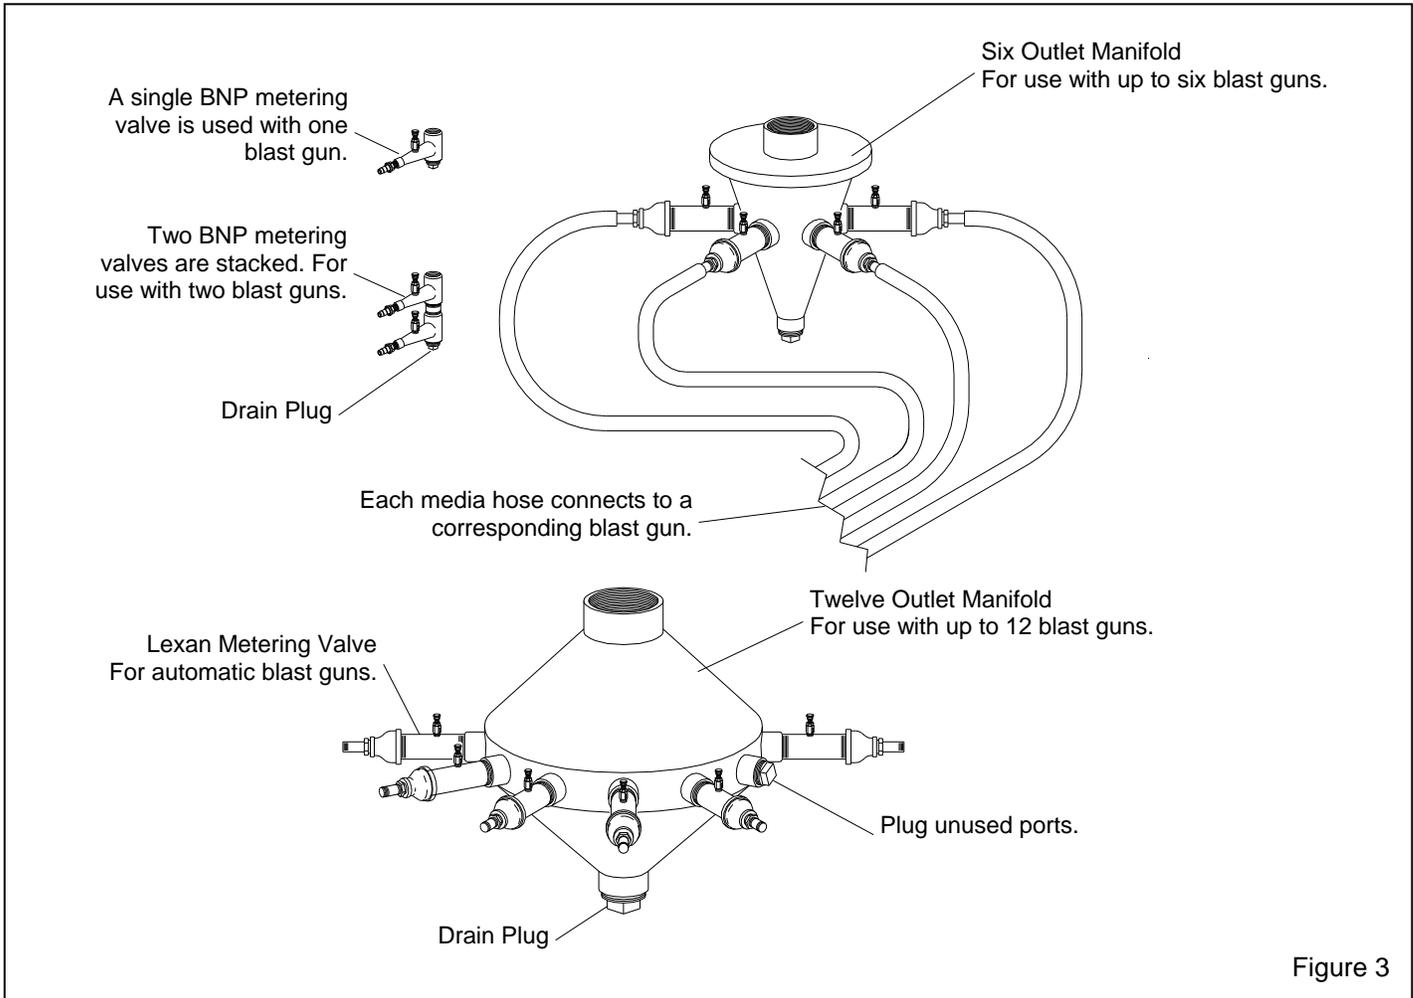

Figure 3
**2.4.1** The type of metering valve feed system is determined by the number of blast guns. The illustration in Figure 3 shows several systems. When one blast gun is used, the metering valve is attached to the pipe nipple located on the bottom of the reclaimer hopper. If two guns are used, the first metering valve is installed as stated above, and the second valve is installed under it as shown. When more than two blast guns are used, a media manifold is attached to the bottom of the reclaimer, using the same number of valves as blast guns. Marking each metering valve, hose and blast gun with a corresponding number makes adjustments and troubleshooting easier.